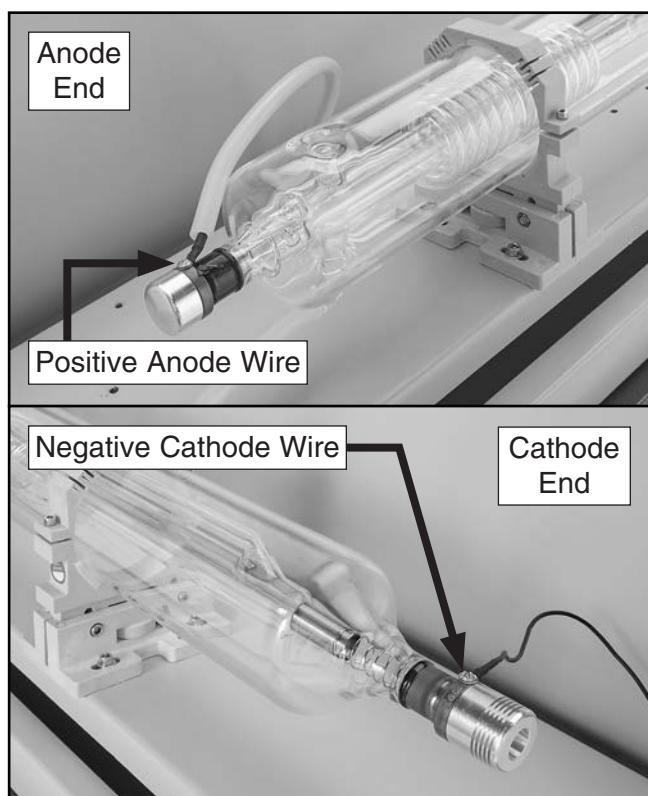

Figure 101. Location of laser tube anode/cathode wires.
- Remove any oxidation on terminals with isopropyl alcohol, then install anode wire on positive (+) terminal (see **Figure 101**).
- Remove any oxidation on terminals with isopropyl alcohol, then install cathode wire on negative (-) terminal (see **Figure 101**).